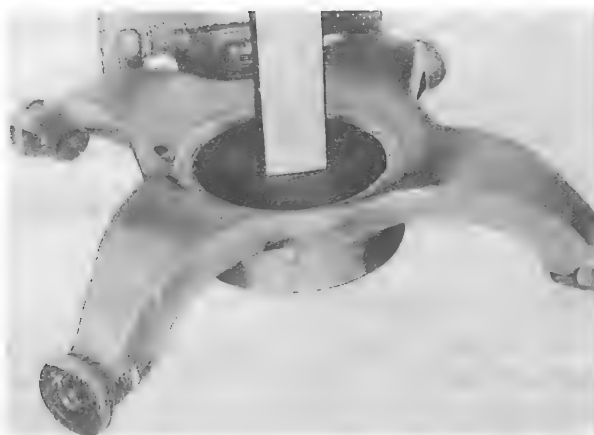

Figure 5-10. Installing Lower Socket in Rotating Star
n. Install socket (14) in rotating star (16) and seat socket, using plate, part No. S1670-10333, and an arbor press. (See figure 5-10.) With a feeler gage, check that socket is evenly seated. Remove special tool and place ball-ring (12, figure 5-8) into lower socket. Install socket (11) and tap into position with a phenolic drift.